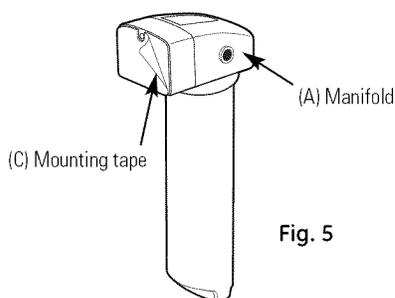

Fig. 5
*(Mounting Using the Mounting Tape Provided [Fig. 5])*
3. Using the double-sided mounting tape provided (C), remove one side of the protective wax paper and apply the entire piece to the back side of the manifold (A), applying firm pressure to the entire piece.
4. Remove the remaining wax paper from the double-sided mounting tape (C) and adhere it to the cleaned wall surface, applying firm pressure to the entire piece.